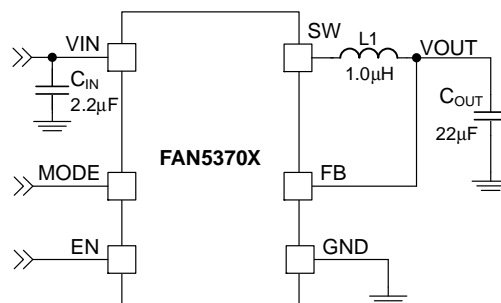

Figure 1. Typical Application
**Table 8. SYSTEM CHARACTERISTICS** Recommended operating conditions, unless otherwise noted,  $V_{IN} = 2.3\text{ V to }5.5\text{ V}$ ,  $T_A = -40^\circ\text{C to }+85^\circ\text{C}$ ,  $V_{OUT} = 1.8\text{ V}$ . Typical values are given at  $T_A = 25^\circ\text{C}$ ,  $V_{IN} = 3.6\text{ V}$ . System characteristics are based on circuit per Figure 1.  $L = 1.0\text{ }\mu\text{H}$ ,  $2.3\text{ A}$ ,  $107\text{ m}\Omega$  DCR, DFE160810S-1R0M (TOKO),  $C_{IN} = 1 \times 2.2\text{ }\mu\text{F}$ ,  $6.3\text{ V}$ , 0402 (1005 metric), C1005X5R0J225M050BC (TDK) and  $C_{OUT} = 1 \times 22\text{ }\mu\text{F}$ ,  $6.3\text{ V}$ , 0603 (1608 metric), C1608X5R0J226M080AC (TDK).